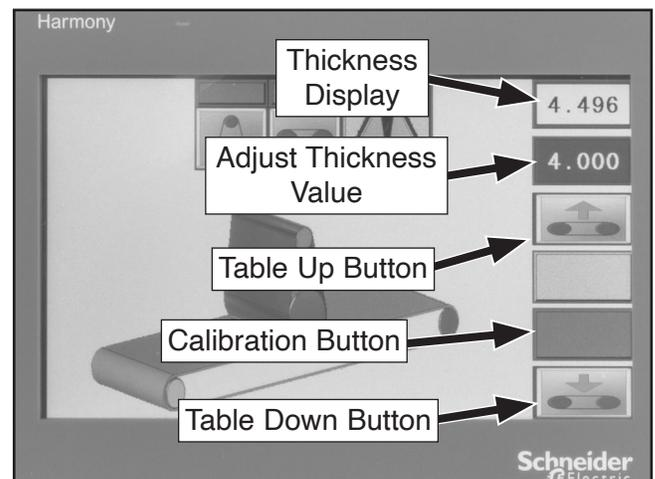

Figure 77. Location of thickness display calibration components.
- Check thickness display (see **Figure 77**).
- Use table up/down buttons to change adjust thickness value (see **Figure 77**) to match measurement taken in **Step 2**, then quickly hold calibration button.